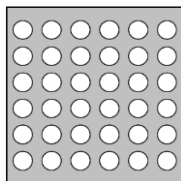

Figure 6.1 Circle Pattern
- (4) The stencil aperture should be 1:1 to the PCB pad size or area need to be soldered.
- (5) It is recommended that smaller multiple openings as shown in Figures 6.1 and 6.2 in the stencil should be used instead of one big opening for printing the solder paste if the soldered area is too large (such as $\geq 7\text{mm} \times 7\text{mm}$), but the solder paste coverage shall be 50% minimum of the openings for plugged vias, and 75% minimum for non-plugged vias.